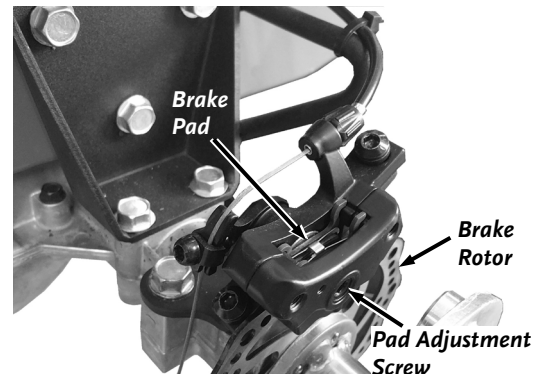

Figure 35
2. Locate the Pad Adjustment Screw on the outboard side of the caliper (**Figure 35**).